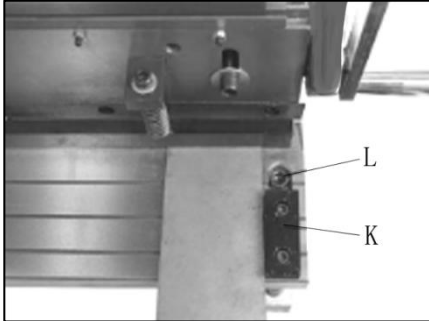

Figure 7
2. Place workpiece against guide block at right edge of table (K, Figure 7). The end of workpiece should be against guide plate.
2. If the shear does not cut the paper, loosen screw (L, Figure 7) at each end of table, with 8mm hex key.